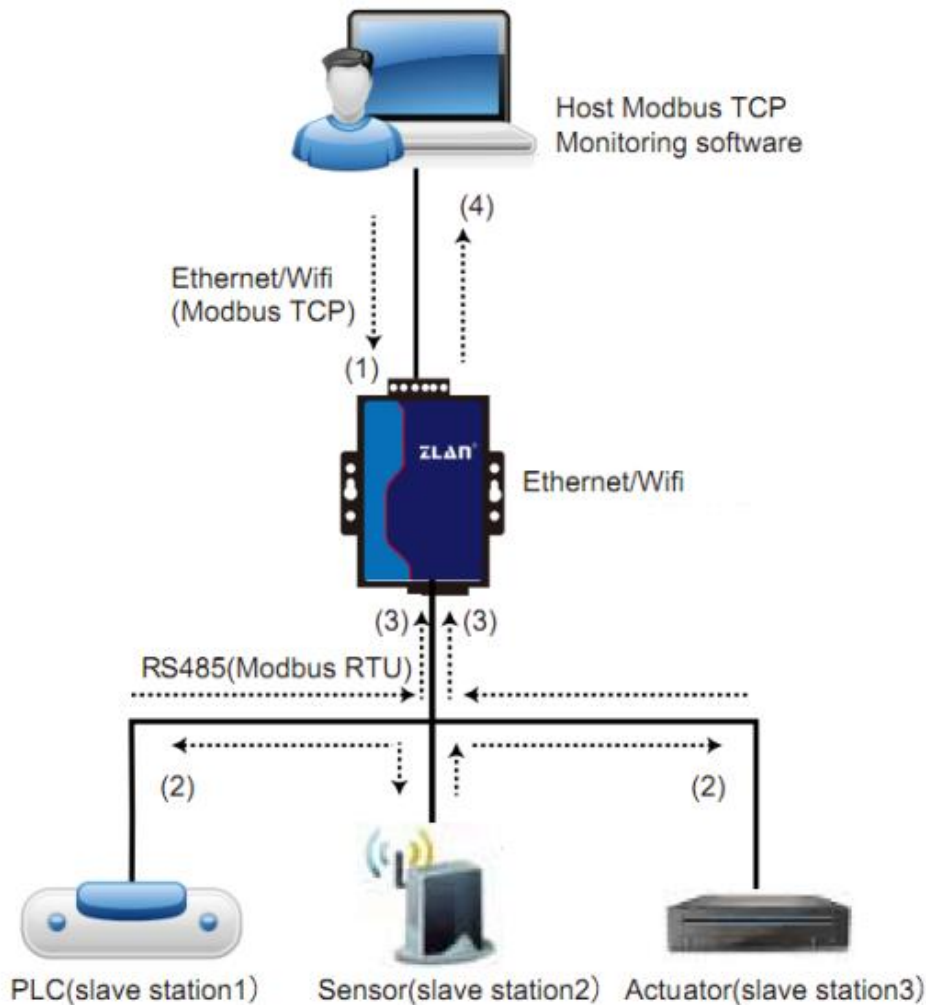

Figure 29 The operational mode of the storage-type Modbus gateway
As shown in Figure 29, the typical flow of Modbus TCP data is as follows: (1) (2) (3) (4). First, the Modbus TCP command is converted into the corresponding Modbus RTU command, then the device responds with the Modbus RTU command to the Modbus gateway, and finally, the Modbus gateway converts it back to Modbus TCP and sends it to the supervisory host.